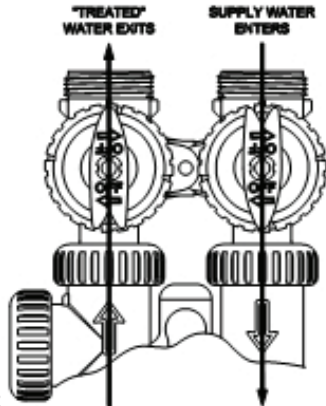

Figure 2
7. Once again, push REGEN button and hold down for 3 seconds. Keep pushing REGEN button until “Backwash” appears. Slowly place the by-pass valve into the “Diagnostic Mode” 1/2 way. Allow water to slowly fill the mineral tank. When a solid stream of water starts coming out of the drain line, open the by-pass inlet valve all the way and allow to run out the drain until water clears. Then slowly place the by-pass into the “normal operation” mode by opening the outlet side of by-pass valve, figure 2, page 5.